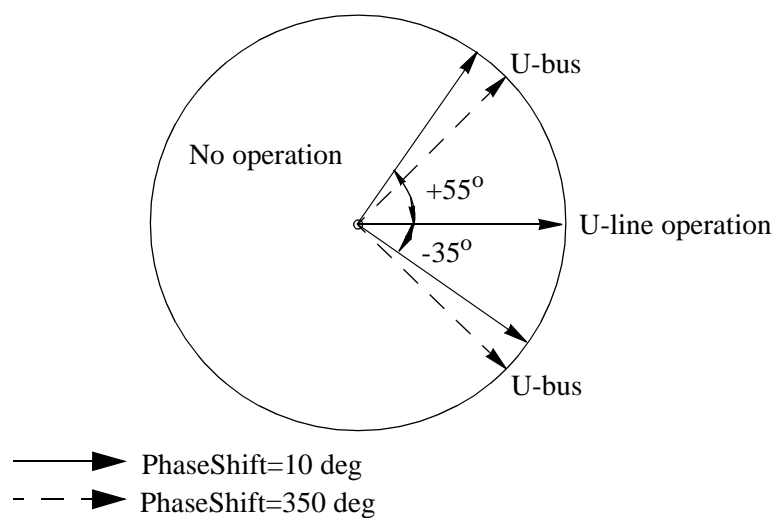

Figure 14: Test of phase difference.
- 4 Apply a PhaseShift setting of 10 deg. Change the phase angle between +55 and -35 and verify that the two outputs are activated for phase differences between these values but not for phase differences outside. See Figure 14:.